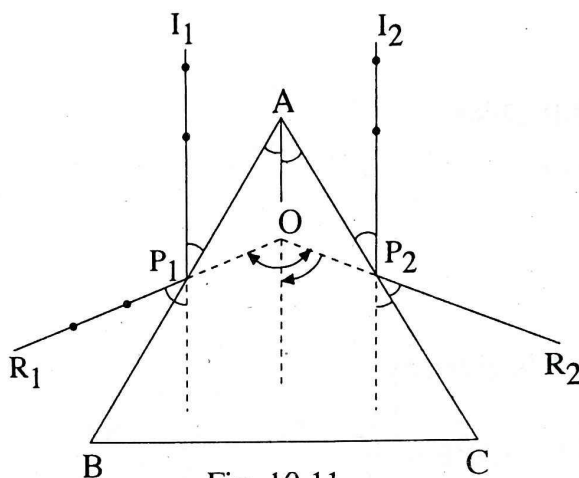

Fig. 10.11
- (i) The outline of the prism is drawn at two different position on a sheet of paper. Two parallel lines are drawn on one of each of the faces AB and AC as in fig. 10.11.
- (ii) Placing the prism in its outline, two pins are fixed at least 10 cms. apart on the line I_1P_1 fig 10.11. The reflected images of these pins are viewed from the same face AB of the reflected images of the previous two pins appear to be in the same st. line. These pin-pricks are joined and produced inwards. This operation is repeated for the other ray along I_1P_2 on the other face AC. The angle between the two reflected rays is measured, which gives an angle equal to twice the angle of the prism. This repeated for the other outline also.